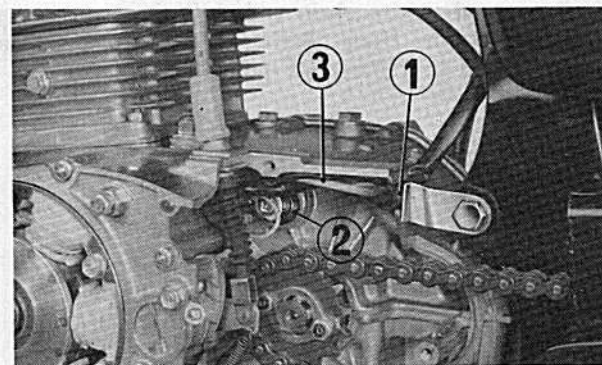

Fig. 3-88 (1) Grommet
3. Route the generator lead wire properly as shown in Fig. 3-88.